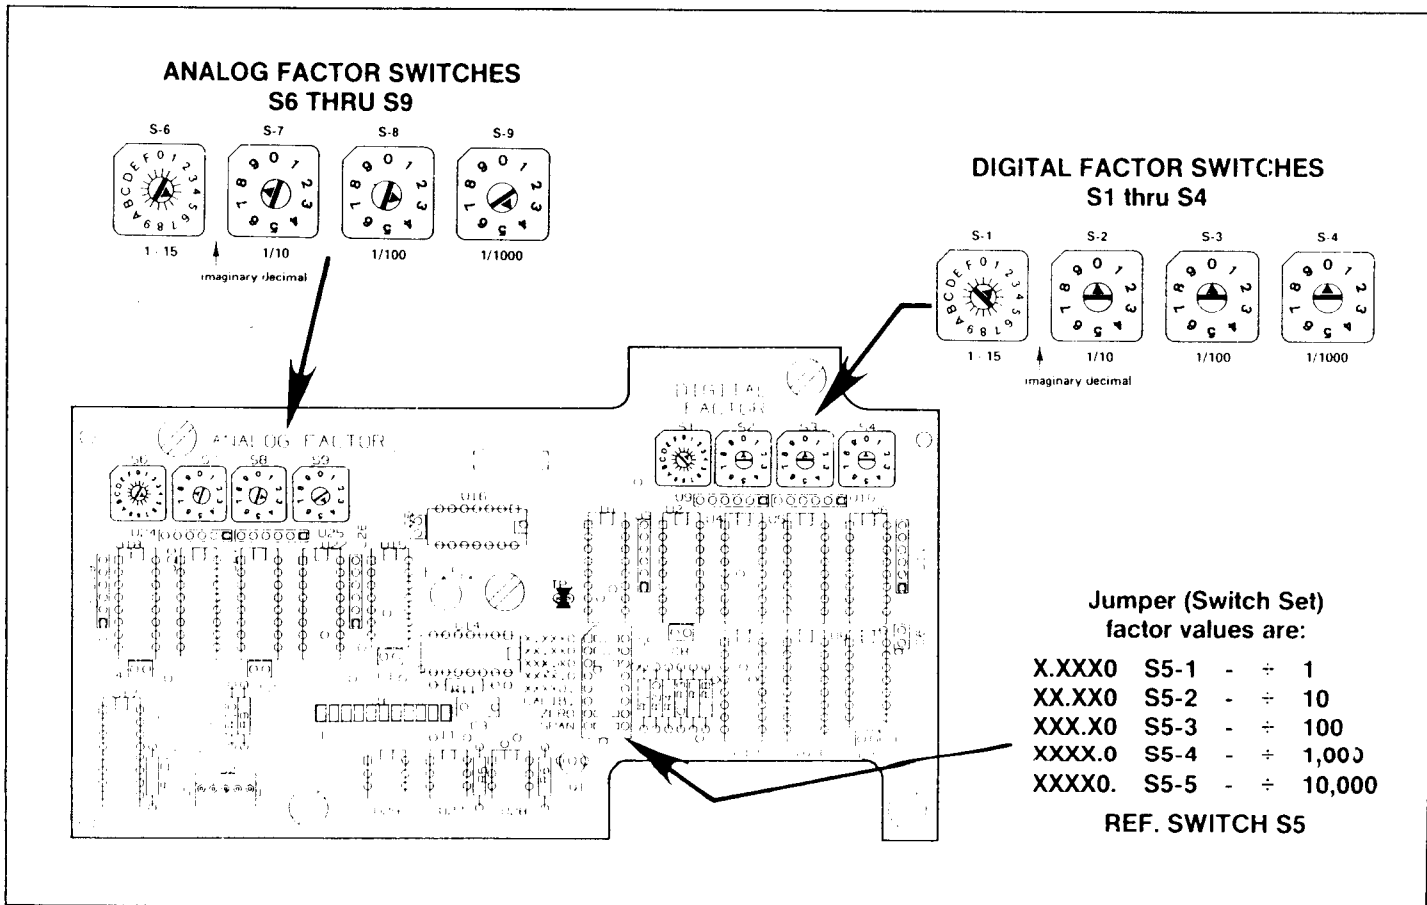

Figure 6-3 Factor Option Board Switches
- D. The FACTOR BOARD, refer to Figure 6-3, allows you to factor the analog or digital output. Refer to the following equations for the analog and digital factors to use.